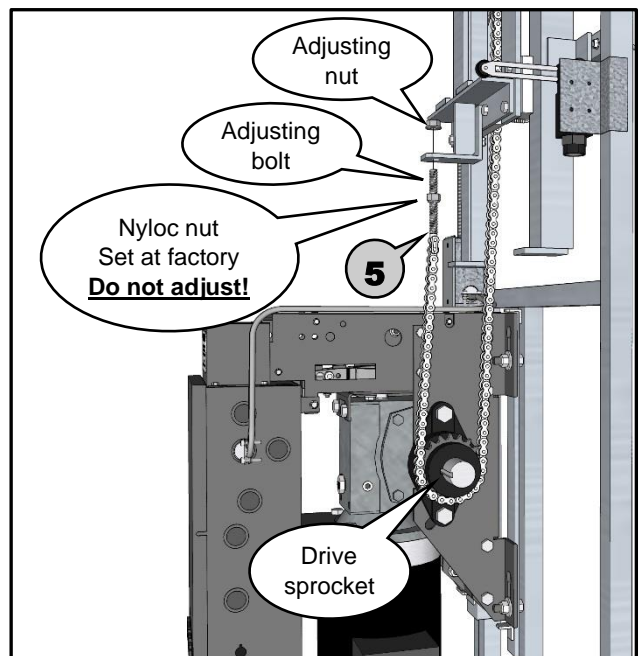

Figure 12
- 5** The other end of the chain should hang down behind the trolley and be placed around the drive sprocket of the motor. Then insert the threaded adjusting bolt, on the end of the chain, into the hole on the bottom of the trolley, where the adjusting nut is tied on, and use the adjusting nut to secure the adjusting bolt to the trolley. Use a blade screwdriver or needle nose pliers to hold chain from twisting and tighten adjusting nut until Nyloc nut is tightly seated against trolley. **Do not adjust Nyloc! (see Figure 12)**